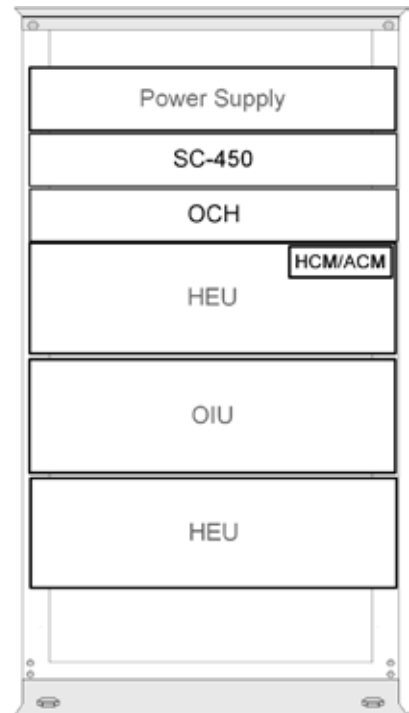

Figure 1. Example of Rack Configuration
*Refer to Figure 1 for an example of where to install the OCH and SC-450 units in the communication rack with the HEU in order to facilitate the cable connections.*